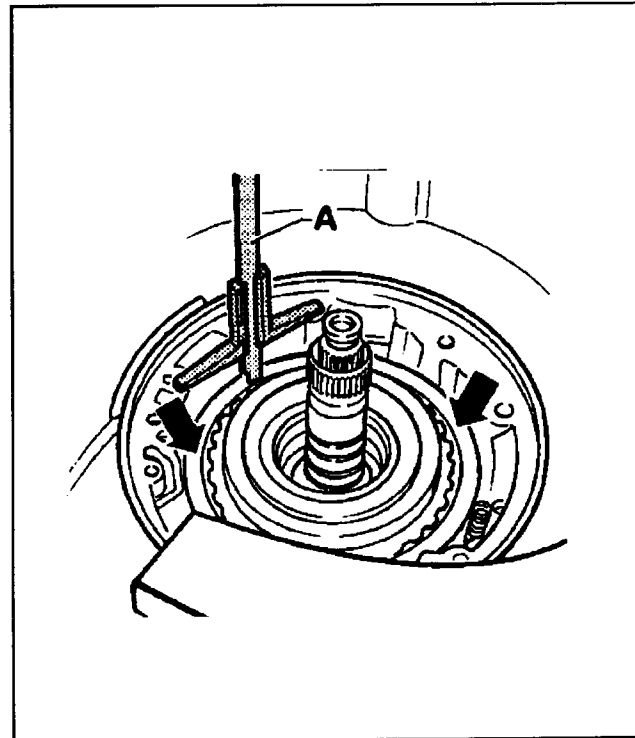

Figure 158
2. In order to calculate "A", measure from the transmission housing to the last friction plate with a depth gauge. Press down on the last friction plate and take a measurement of the depth between the transmission housing and the last friction plate (See Figure 158)